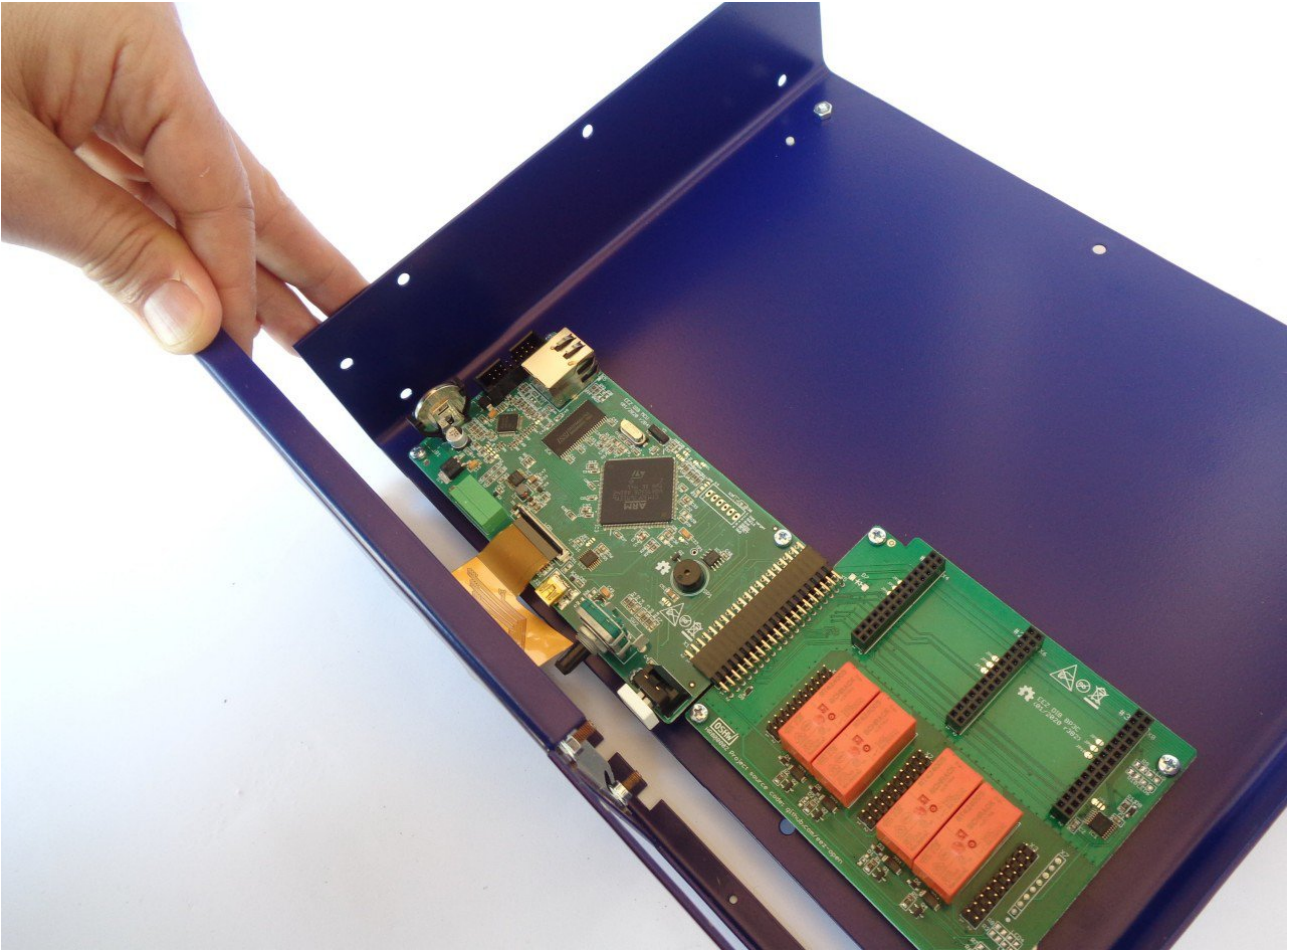
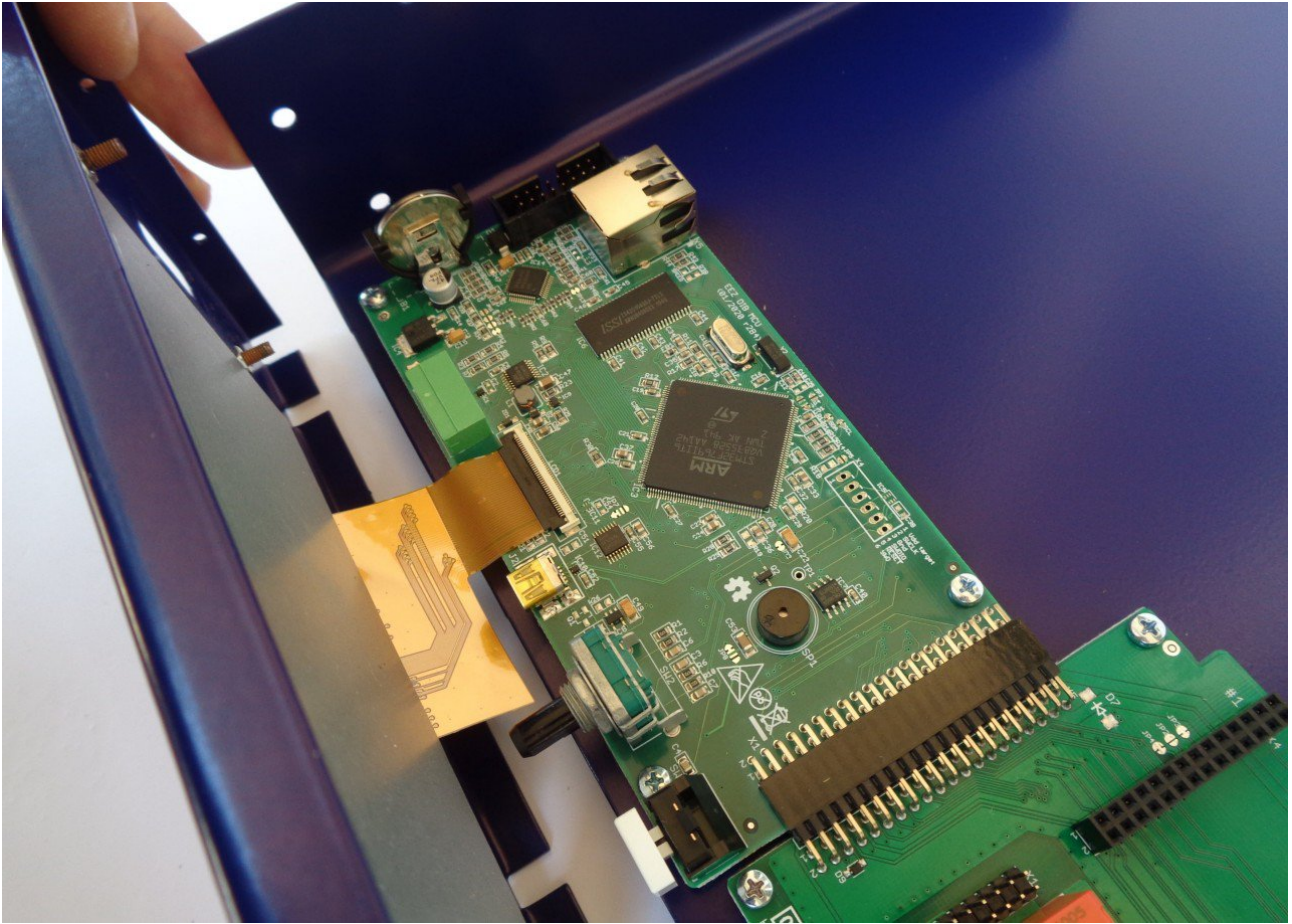

Fig. 12: Inserting display flexible cable into 40-pin FFC connector
Fig. 13: 40-pin FFC connector in lock position
- The SDcard comes already mounted on the MCU module. It is recommended that you remove the SDcard before mounting the front panel (Fig. 12, 13, 14).
Carefully bend the display cable so that it is in line with the FFC connector and slowly insert it (Fig. 12). When the flexible display cable is in place, lower the black lever to lock the cable (Fig. 13).